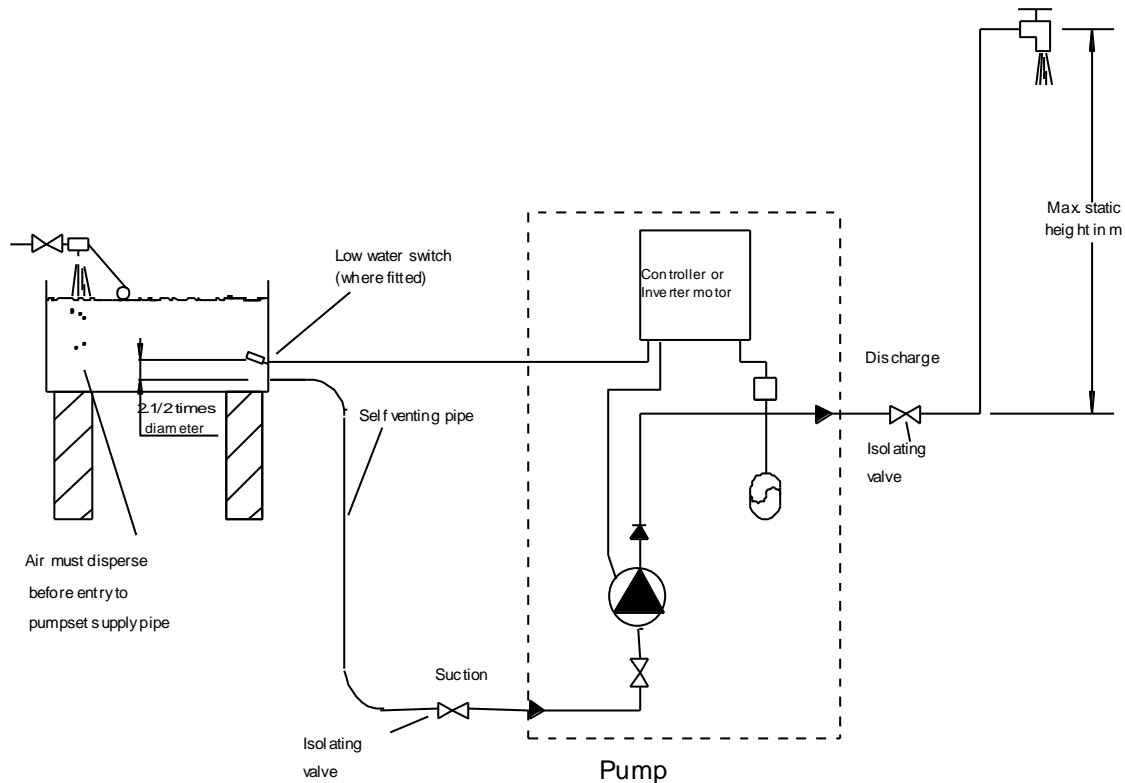

Fig. 1.1 Typical Pipework arrangement
- 1.3.4.2** Arrange the suction pipework to be self-venting between the mains water breaktank and the pumpset suction manifold (see fig.1.1).
- 1.3.4.3** Fit isolating valves to the suction side and discharge side of the pumpset (see fig.1.1), to enable the pumpset to be isolated from the system for maintenance purposes.